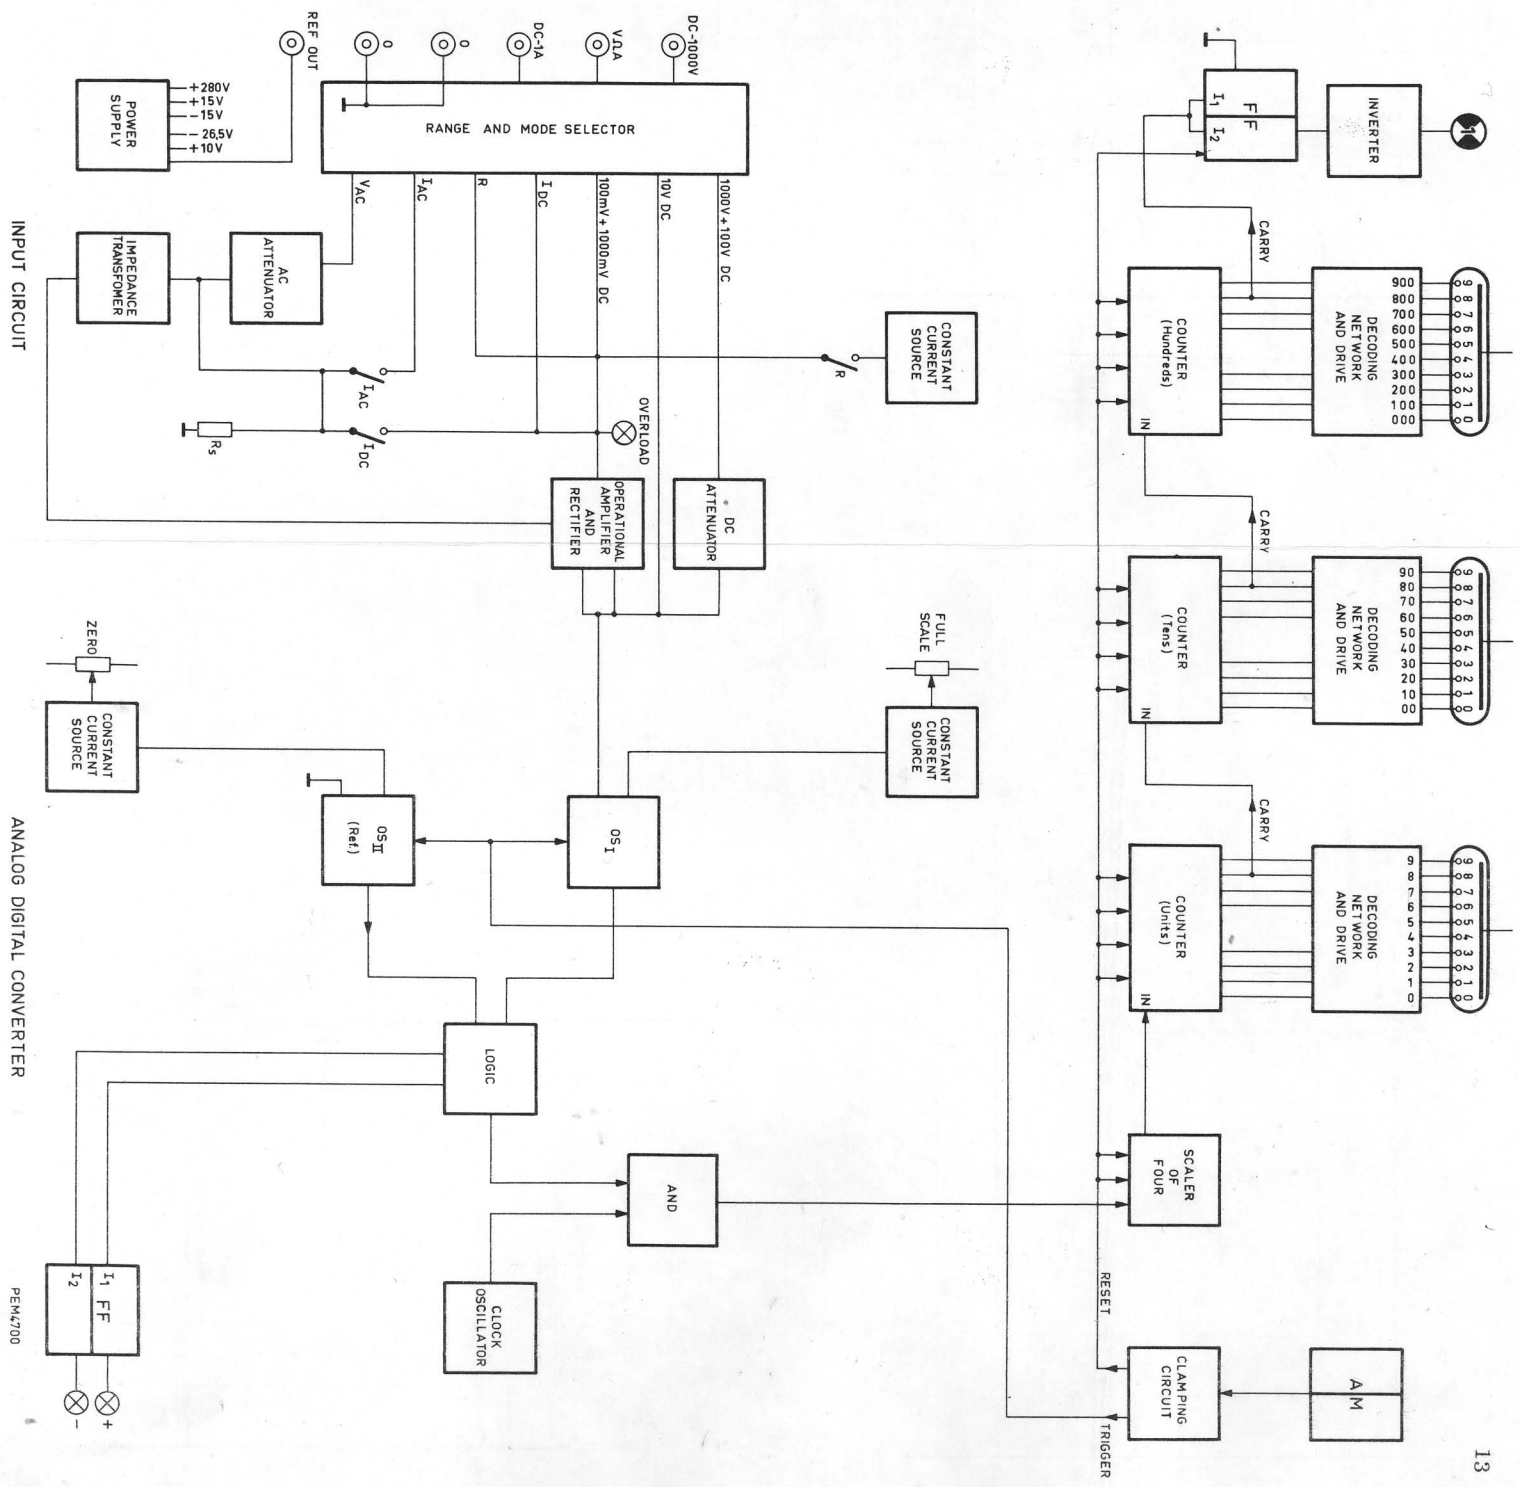

Fig. 3. Block diagram
B. DESCRIPTION OF THE BLOCK DIAGRAM (Fig. 3)
The direct voltage from the input circuit is applied to the ADC, which consists of two one-shot multivibrators, OS I and OS II in Fig. 3.